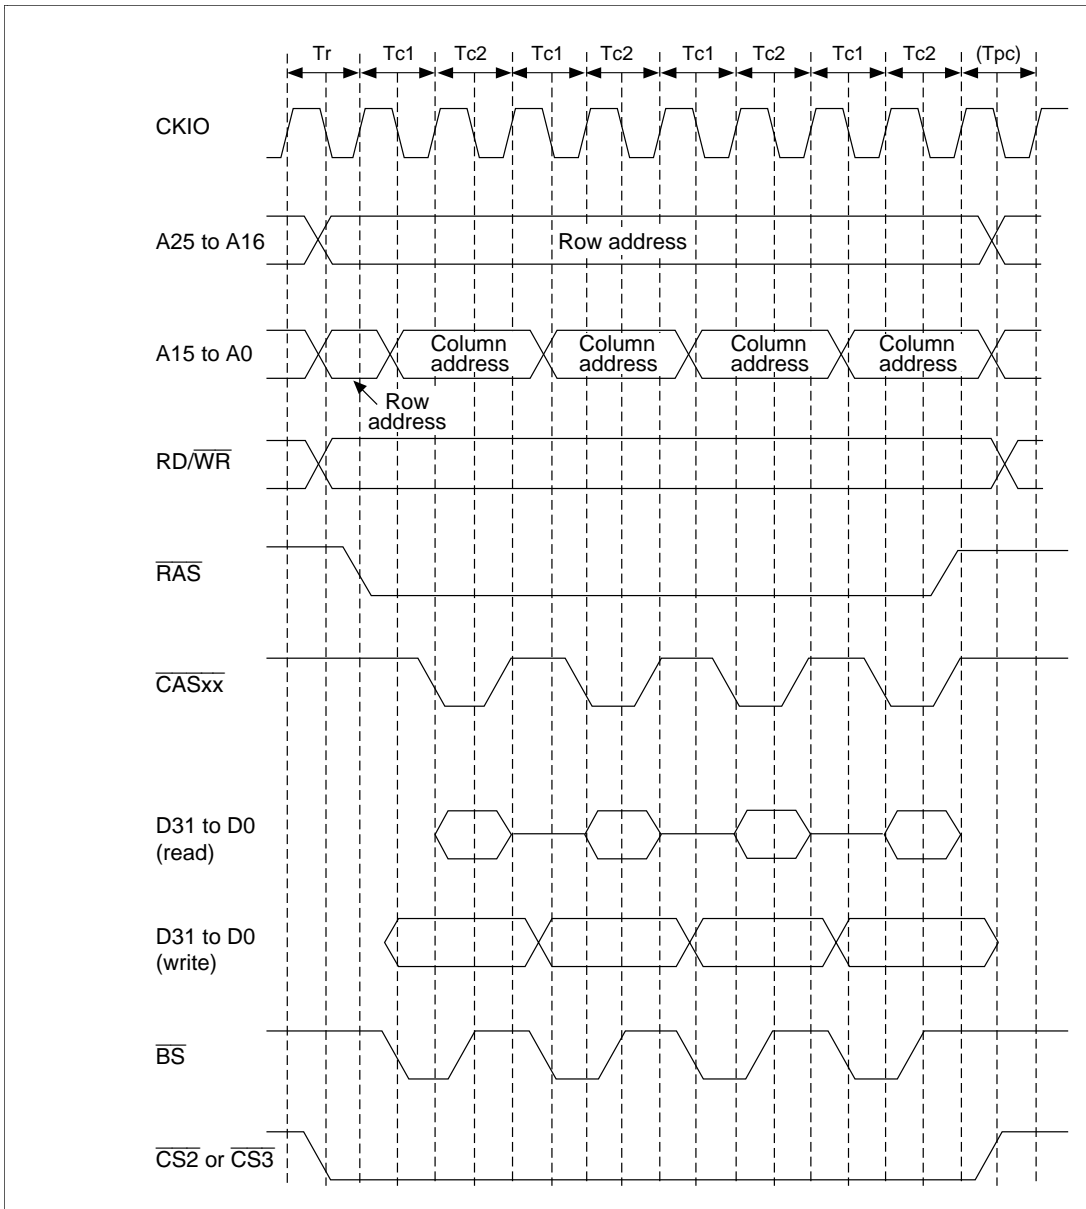

Figure 10.16 DRAM Burst Access Timing
Burst Access: In addition to the normal DRAM access mode in which a row address is output in each data access, a high-speed page mode is also provided in cases where consecutive accesses are made to the same row. This mode allows fast access to data by outputting the row address only once, then changing only the column address for each subsequent access. Normal access or burst access using high-speed page mode can be selected by means of the burst enable (BE) bit in MCR and DCR. The timing for burst access using high-speed page mode is shown in figure 10.16.